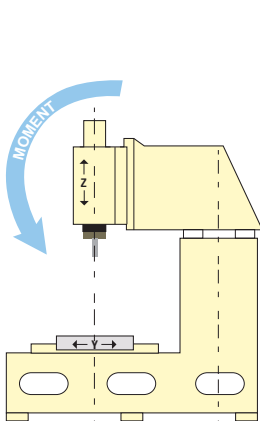

Figure 1
- The Z axis is cantilevered from the X axis (Figure 1)